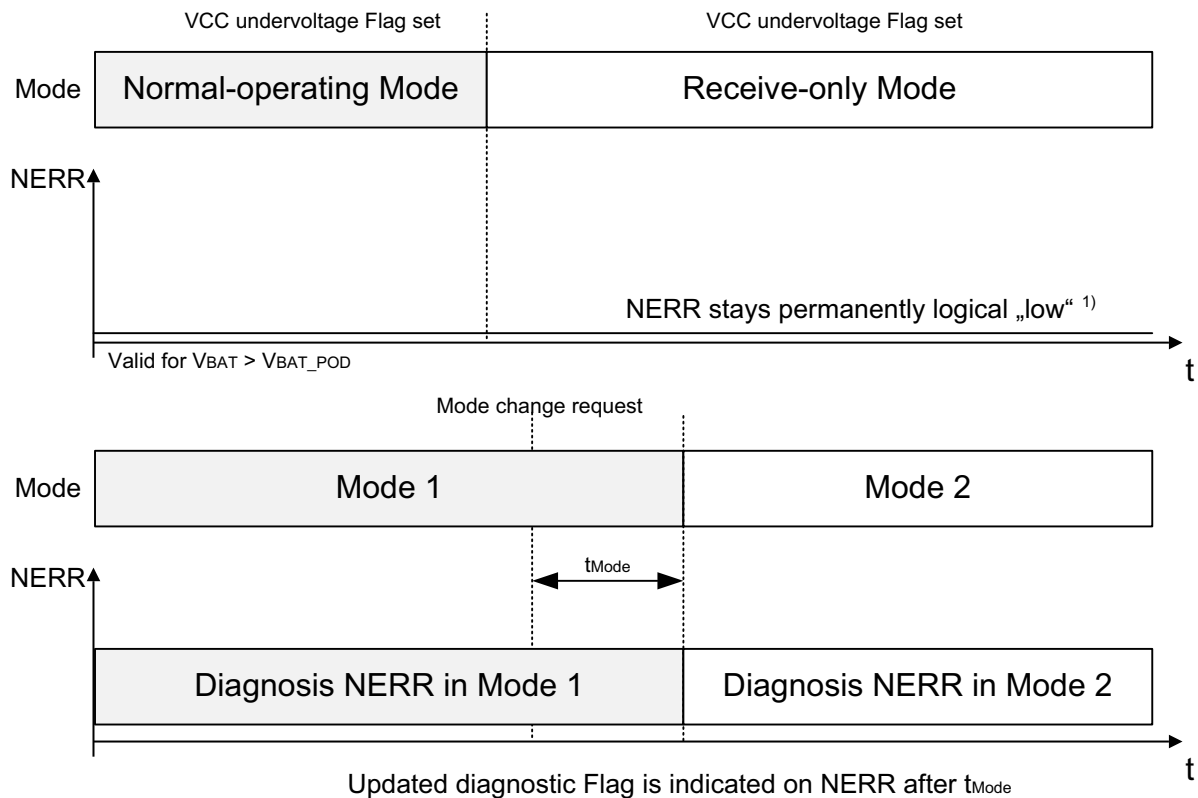

Figure 20 NERR Behavior during mode changes
- If an undervoltage on V_{CC} has been detected in Normal-operating Mode, the NERR pin is set to logical “low”. During mode change to Receive-only Mode the NERR pin stays logical “low”. If the V_{CC} supply did not recover, the NERR stays logical “low” in Receive-only Mode (see **Figure 20**).
- The diagnostics on NERR pin is updated after t_{Mode} has expired, when the mode transition is completed (see **Figure 20**).